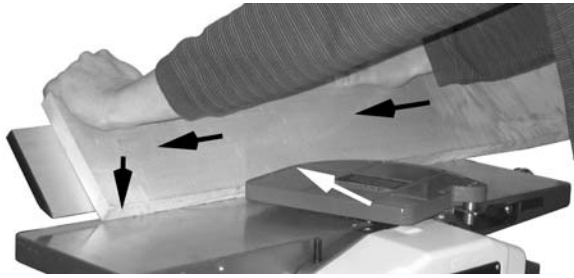

Figure 23
5. Feed the stock through the cutterhead, making sure the face of the stock is completely flat against the fence and the edge is making solid contact on the infeed and outfeed tables (Figure 23).